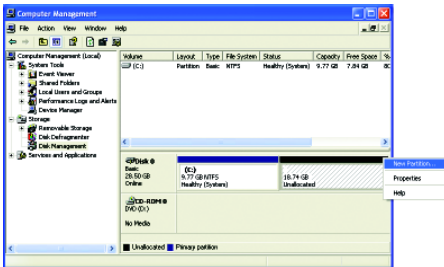

Figure 6
- If your hard drive is not properly partitioned before you install the operating system, you may create new partitions using free space on your hard drive (Figure 6, 7). However, if **Disk Management** shows the hard drive only contains the System partition without any unallocated space, you will not be able to create new partitions or use Xpress Recovery2. If this occurs, reinstall the operating system and re-partition your hard drive.